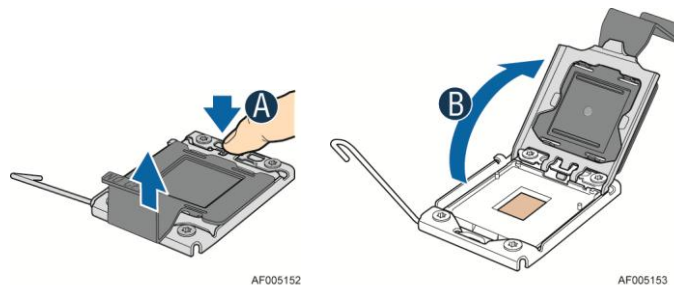

Figure 31. Installing Processor – Open the Load Plate
3. Open the load plate; see Figure 31